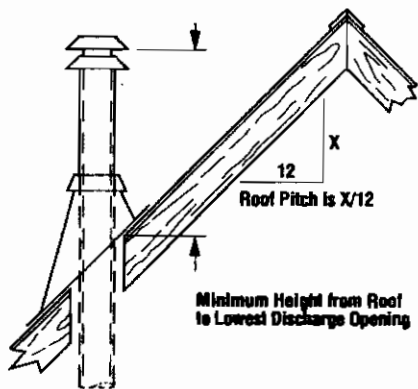

Figure 9
**Gas Vent Rule** – Gas vent caps that are located 8' or more from a portion of a building which extends at an angle greater than 45° upward from the horizontal may terminate in accordance with Table 1 (Figure 9), provided that in no case shall any discharge opening on the cap be less than 2' (610 mm) horizontally from the roof surface.